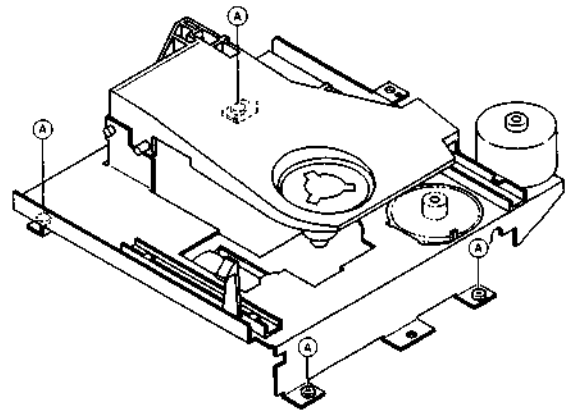

Fig. 5-2
- 2) Remove four Mecha chassis fixing screws A. (Refer to Fig. 5-2)